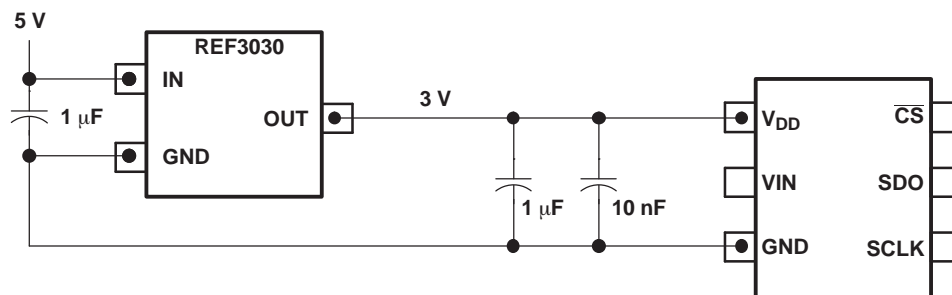

Figure 30. Using the REF3030 Reference
- A reference output from a low drift and low drop out reference voltage generator like REF3030 or REF3130. The ADS7886 operates from a wide range of supply voltages. The actual choice of the reference voltage generator would depend upon the system. Figure 30 shows one possible application circuit.